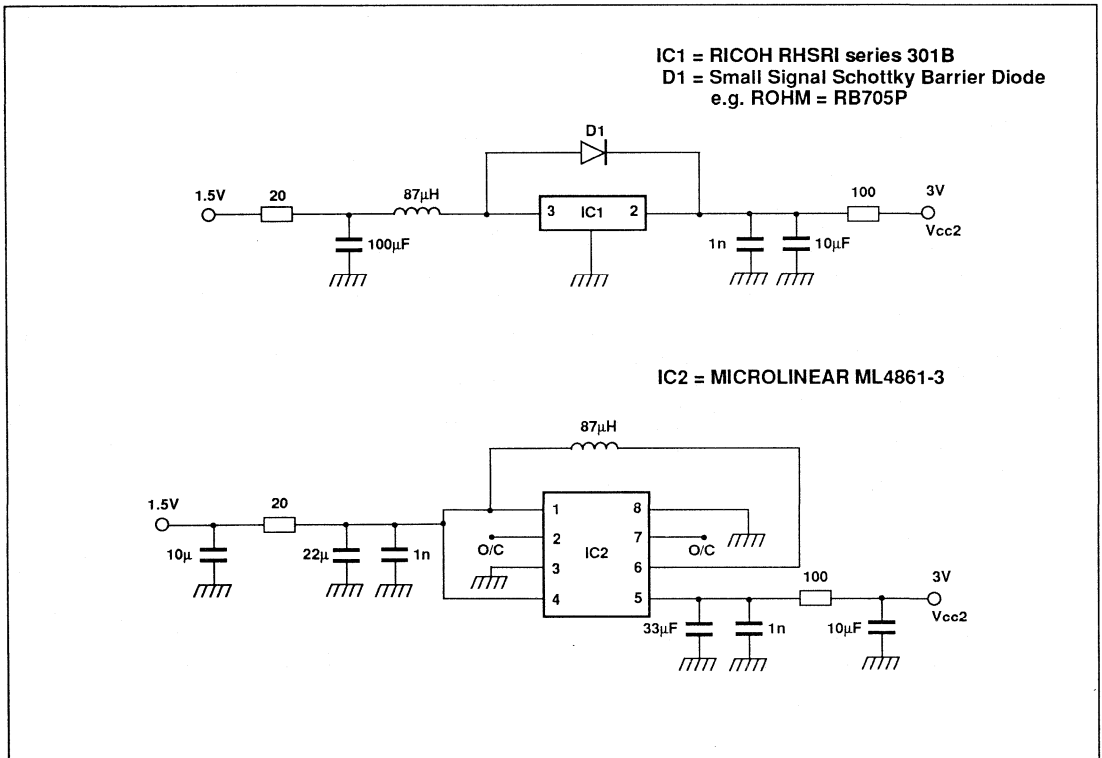

Fig.3: Suggested voltage doubler circuits
- Careful choice of voltage doubler/regulator to supply Vcc2. Supply filtering can be most effectively achieved if all frequency components of the voltage doubler lie outside the frequency range 500Hz to 25kHz. Two voltage doubler circuits that have been used with the SL6609A are shown in Fig. 3. It is good practice to use a two board design if possible, one for the RF circuitry and one for the digital circuitry. It is preferable to place the voltage doubler/regulator circuitry on the digital board.